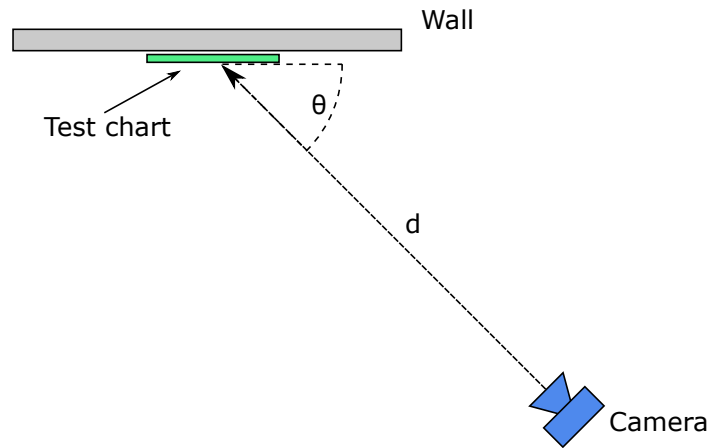

Figure 26: Illustration showing the top view of the autofocus calibration set-up
1. Figure 26 illustrates the basic set-up. The distance d is the “distance to chart”, and the angle θ is the “angle with respect to the test chart”.